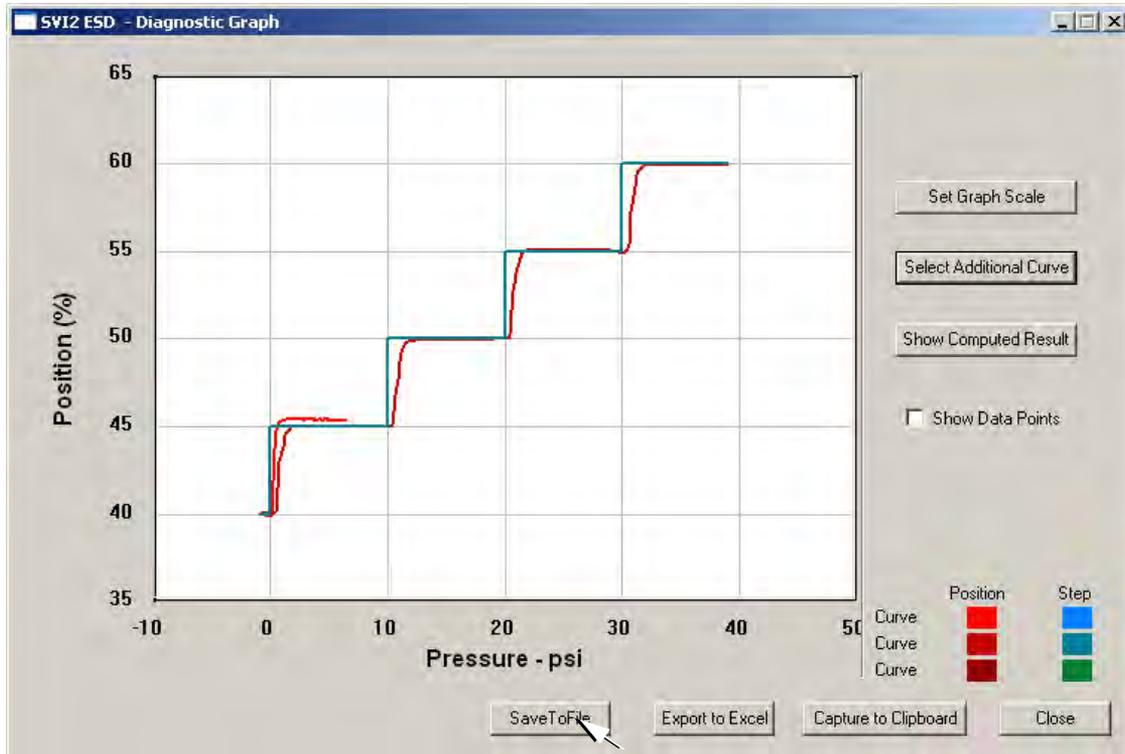

Figure 155 Selecting Save to File
1. Select **Save To File** (Figure 155).